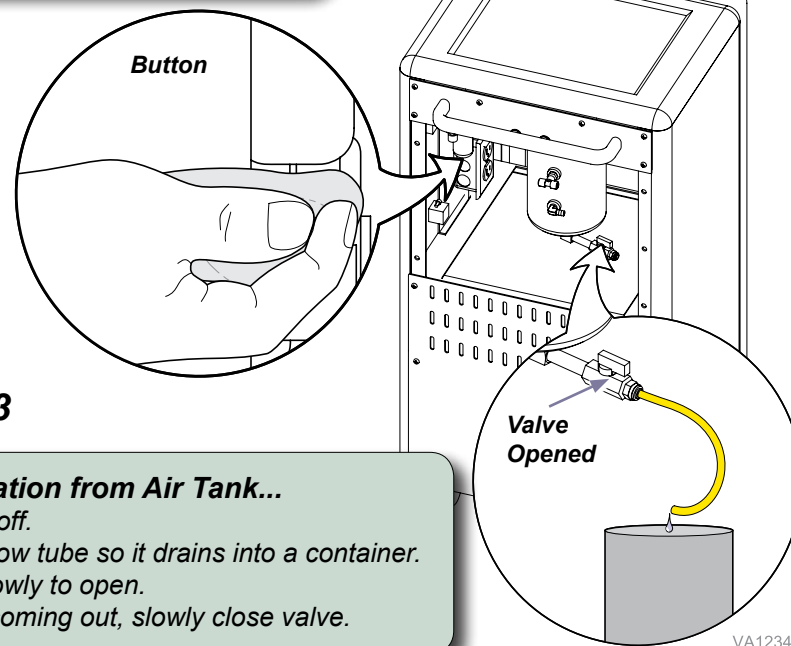

Fig. 3
B. Drain Air Regulator. (Fig. 3)
C. Drain Condensation from Air Tank. (Fig.3)